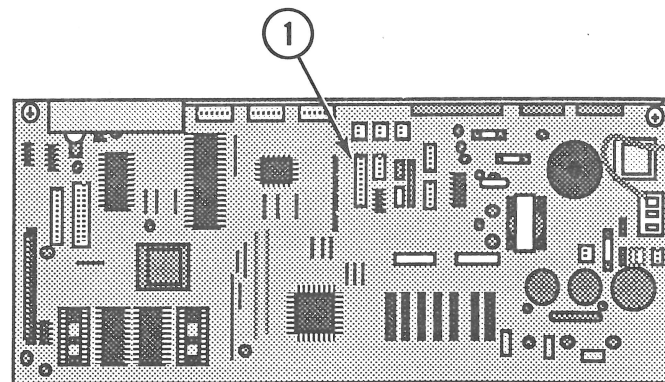

FIGURE 10
2. Disconnect the color ribbon assembly cable from main board connector CN7 (Figure 10, #1).